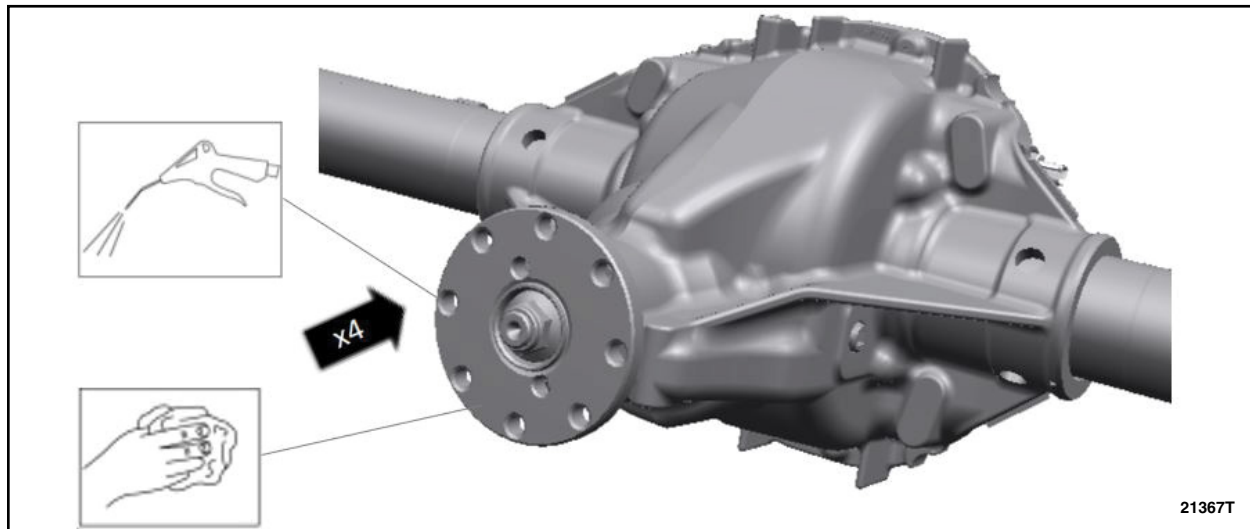

FIGURE 10
17. Using an air blow gun, remove any debris from threaded holes in axle flange. See Figure 10.